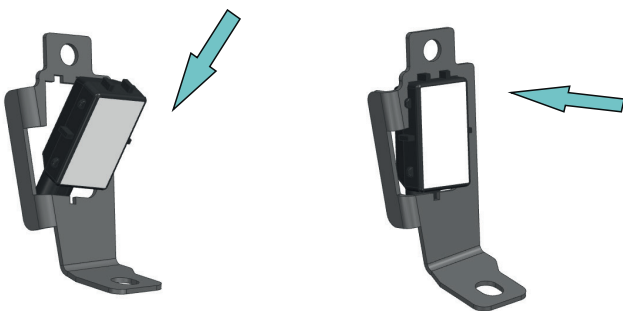

Fig. 21
23. Install OE LED lights into brackets for license plate light (item 3,4) (Fig.21).